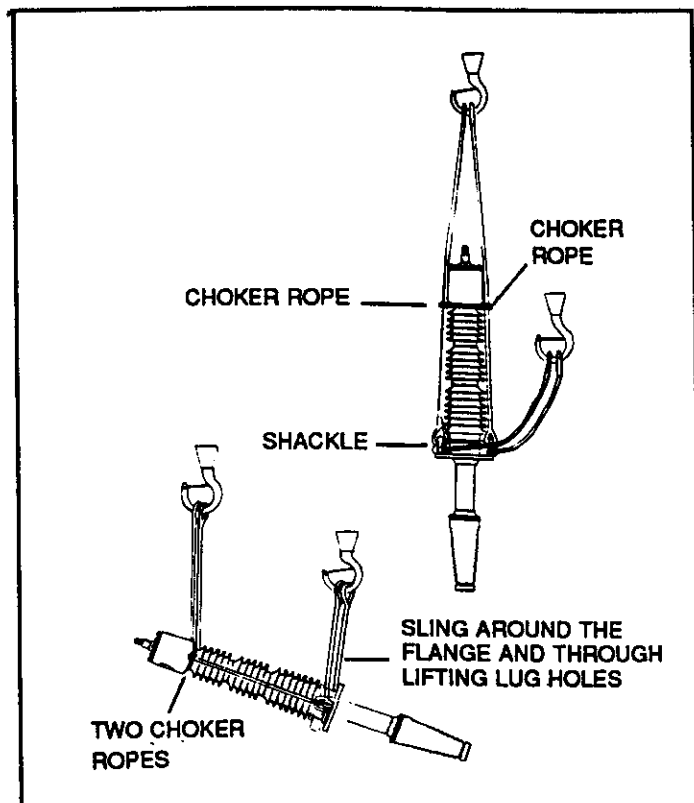

Figure 4A: Method of lifting a bushing rated 362 kV and below.
- Bushings under 345 kV can be lifted as shown in Figure 4A. Unlike bushings rated 550 kV and higher, these bushings do not have guide brackets bolted at the top and therefore two nylon choker ropes/slugs should be tied around the top porcelain just under the metal dome or under the first porcelain shed on bushings without metal dome to guide the lifting sling in each side.